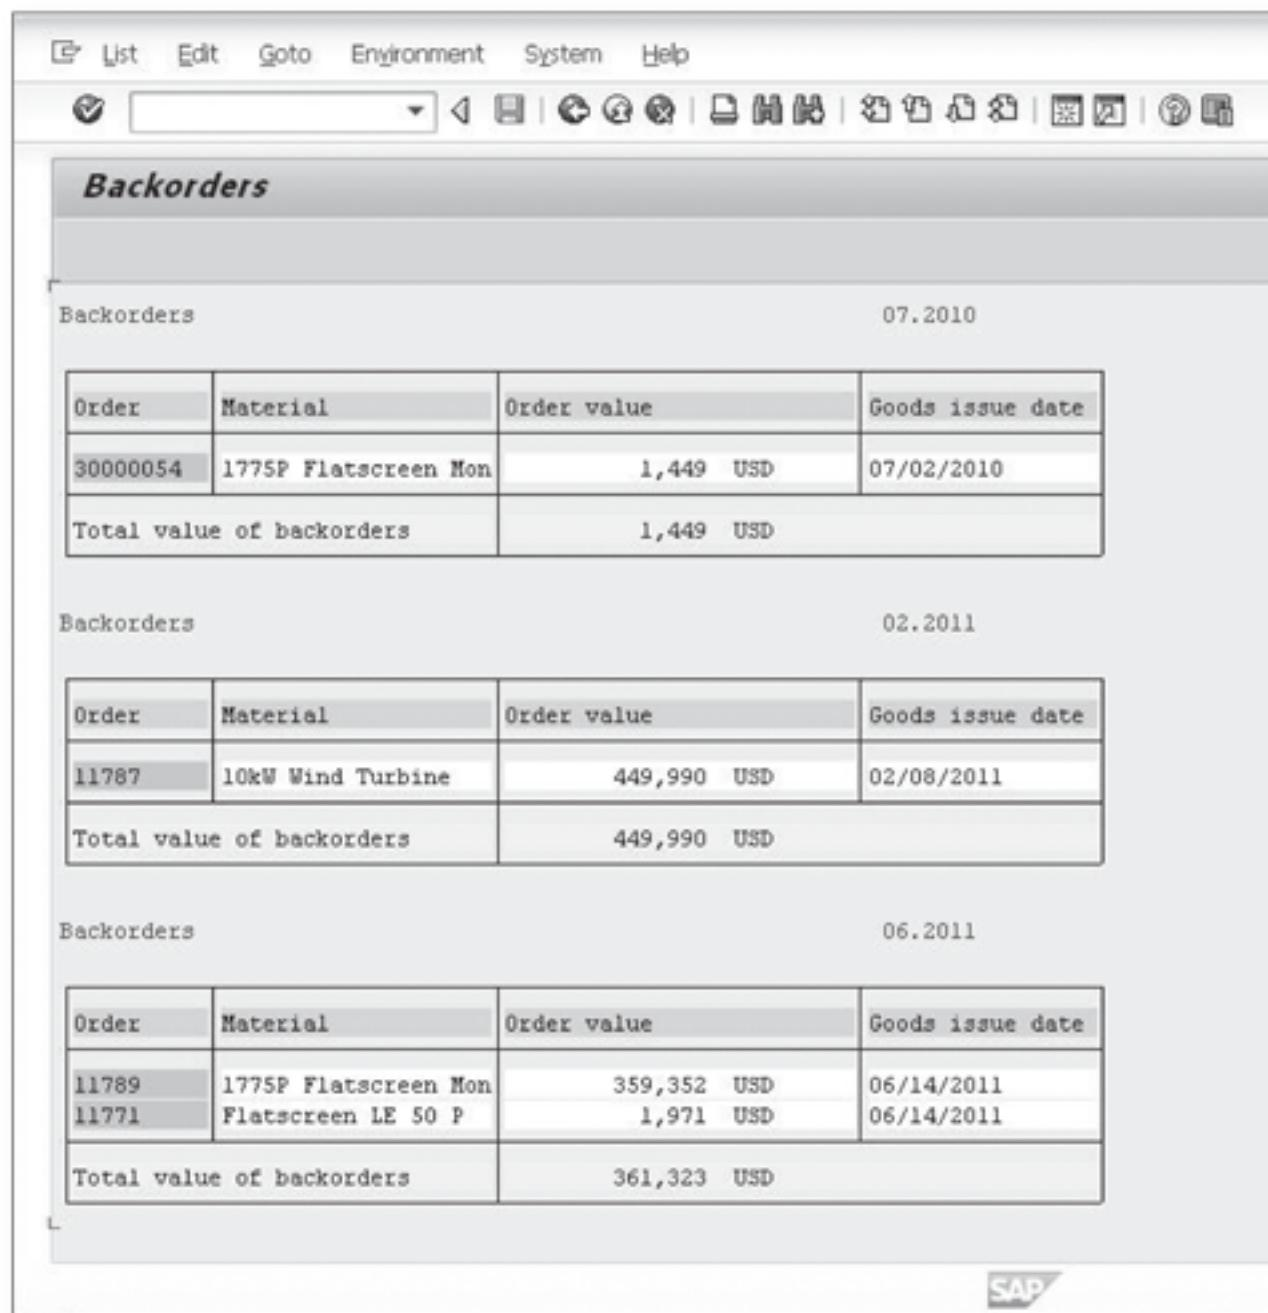

Figure 3 Backorders Material List View
- **MATERIAL LIST VARIANT:** Orders are sorted by order/material number, showing backorder values on the goods issue date (shown in Figure 3).
If errors are displayed, you can review the log by using the pull-down menu (selecting EDIT • ERROR LOG) as shown in Figure 3.
▲ Figure 3 Error Log Display